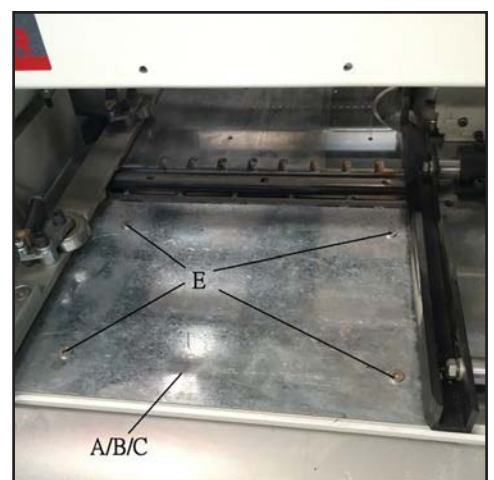

**Figure 27.** Location of depth-of-cut sheet screws.
Remove the (4) flat head screws (E) shown in **Figure 27**, then install the depth-of-cut sheets (A/B/C) as desired. Install the flat head screws to secure.